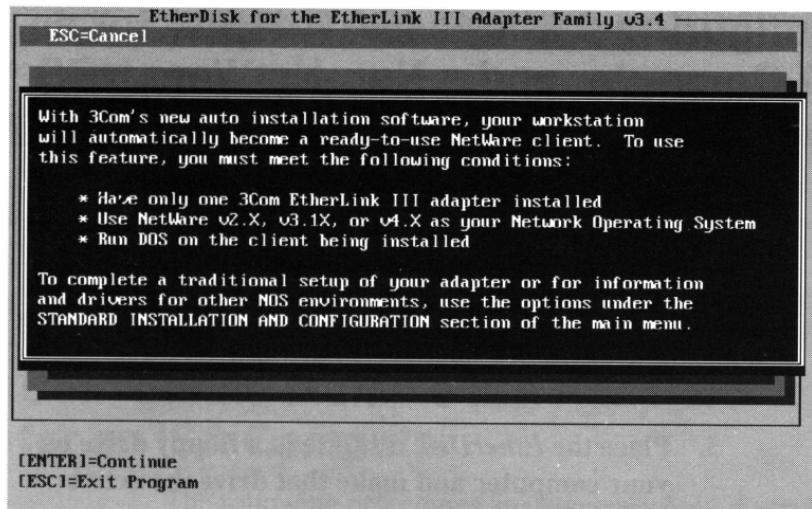
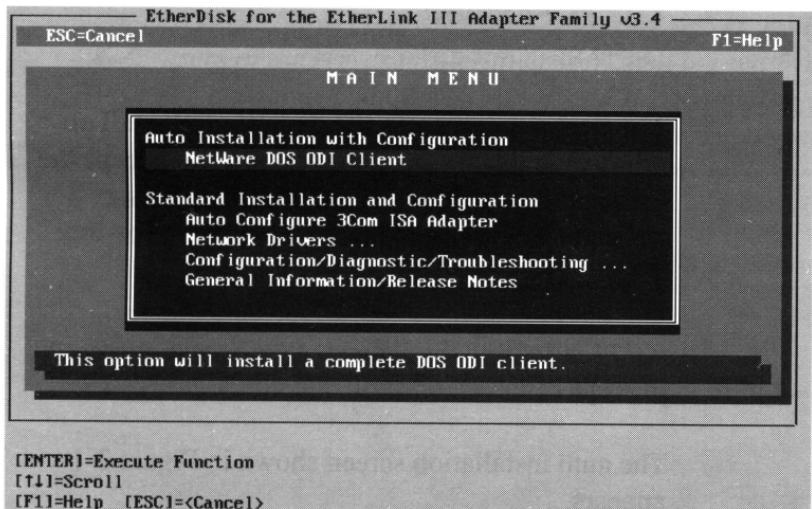

Figure 2-1. Auto Installation Screen
Figure 2-2. Main Menu
The auto installation screen shown in Figure 2-1 appears.
- 6. When the main menu screen shown in Figure 2-2 appears, select NetWare DOS ODI Client and press [Enter].**
7. When the main menu screen shown in Figure 2-2 appears, select Auto Configure 3Com ISA Adapter and press [Enter].
- 1. When the main menu shown in Figure 2-2 appears, select Configuration/Diagnostic/Troubleshooting.**
First the auto installation screen appears, as shown in Figure 2-1. Then the main menu appears with a list of options, as shown in Figure 2-2.